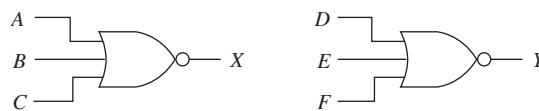
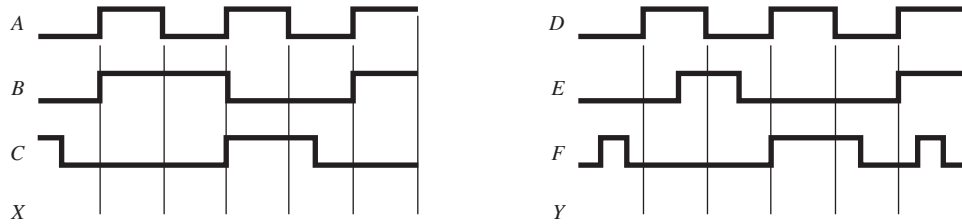

Figure P34
Figure P35
34. For Figure P34, write the Boolean equation at X and Y and build a truth table for each.
35. Referring to Figure P34, sketch the output at X and Y , given the input waveforms in Figure P35. ($X = \overline{A + B + C}$, $Y = \overline{D + E + F}$)